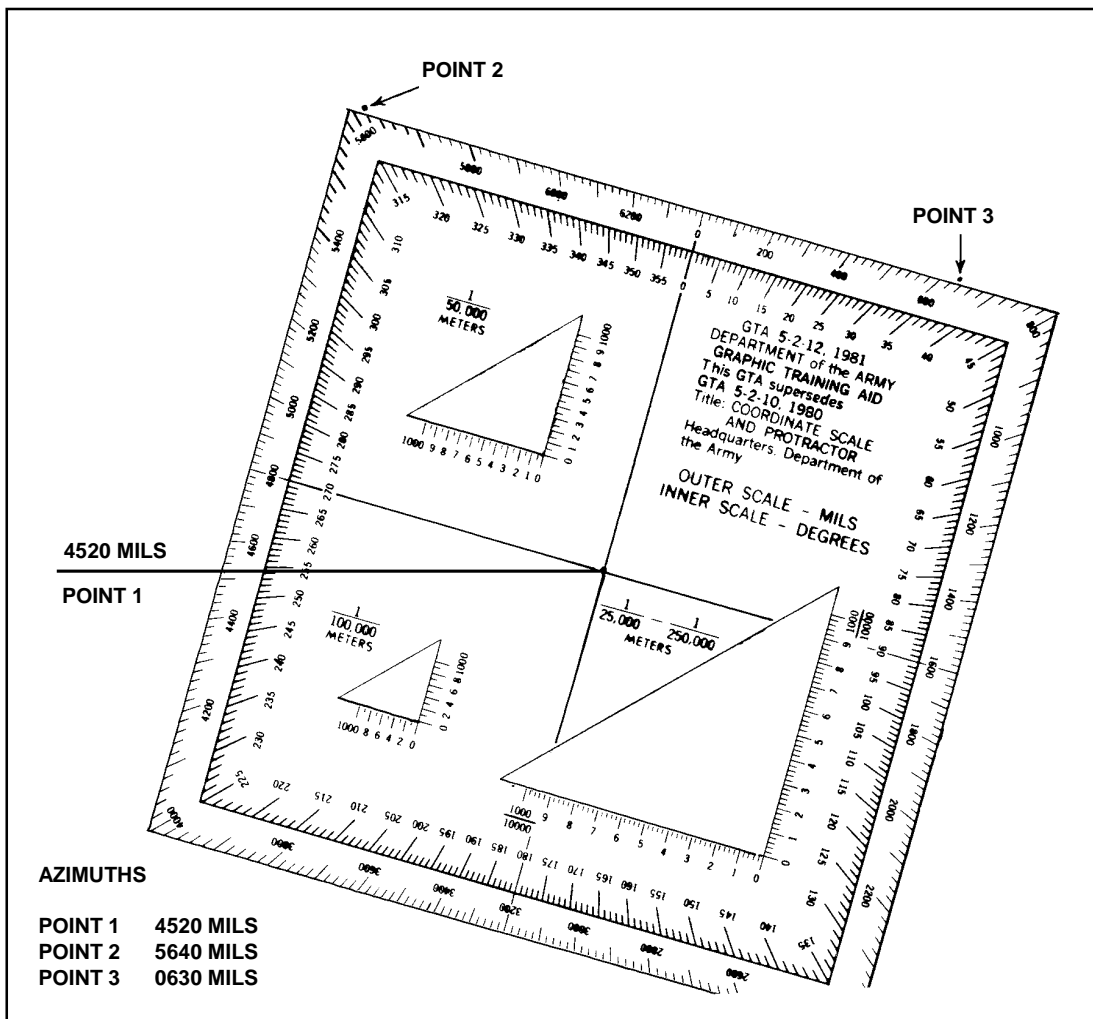
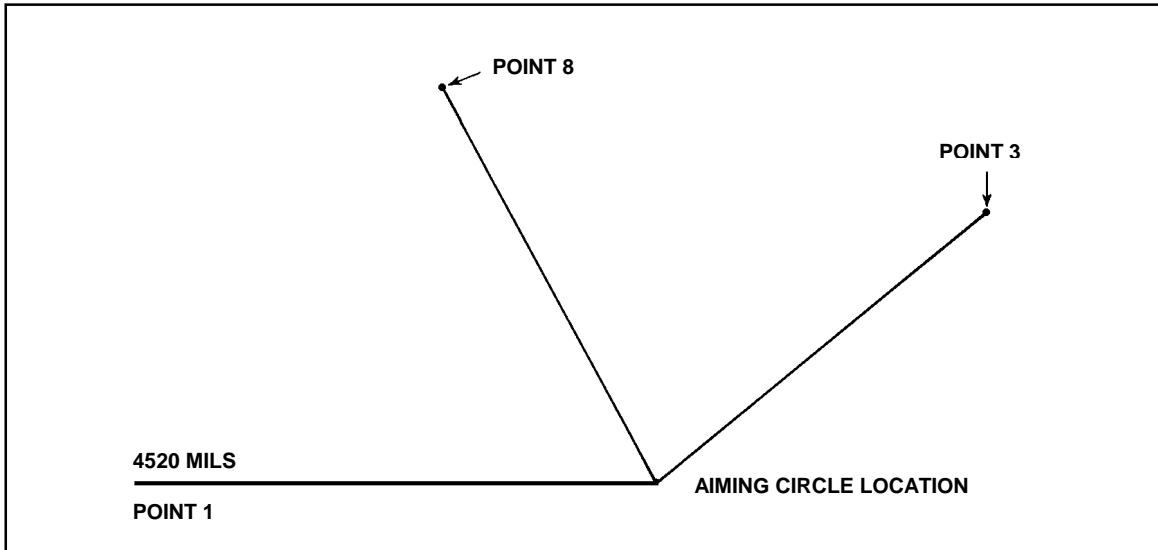

Figure C-3. Protractor aligned with correct azimuth.
Figure C-4. Two more lines drawn from dot.
e. With a protractor aligned with the correct azimuth on the line (Figure C-3), draw two lines from the dot on the measured azimuths (Figure C-4).